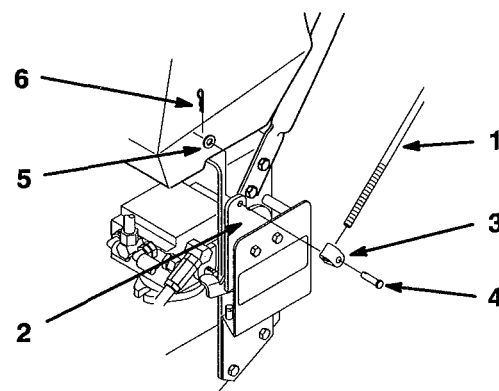

Figure 3
1. Slide clevis pin through rod fitting and mounting hole in control bracket (from outside). Secure with washer and hairpin cotter (Fig. 3).
4. Push rod full forward until bearing is against control bracket stop. Thread rod in or out of fitting on control bracket until rod aligns with holes in upper control bars (Fig. 3).
5. When rod and holes in upper control bars line up, turn rod one (1) additional turn, so rod is shorter.
10. Push rod full forward until bearing is against control bracket stop. Loosen wing nut and thread turnbuckle in or out until rod aligns with holes in upper control bars (Fig. 3).
11. When rod and holes in upper control bars line up, rotate turnbuckle one (1) additional turn, so rod is shorter.